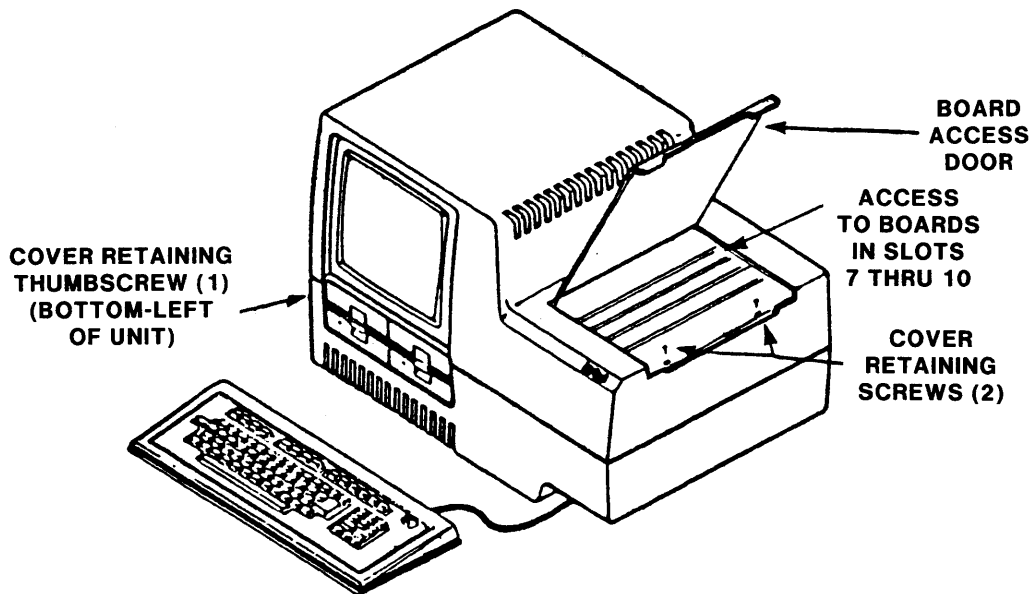

Figure 4-3. Series IV, Mainframe Board Access Door Opened
It is not always necessary to remove the top cover from the system to install boards. Card cage slots 7 thru 10 are accessible through the board access door (see Figure 4-3). To install boards into card cage slots 1 thru 6 the top cover must be removed.
2. Loosen the cover retaining thumbscrew until it is completely free from the top cover (see Figure 4-3). The thumbscrew remains captive in the base.
3. Lift the board access door and loosen the two cover retaining screws until the screws are completely free from the base (see Figure 4-3). The cover retaining screws remain captive in the cover.
the board access door (see Figure 4-3) and are usually reserved for boards that may be changed occasionally or that require easy access. Typical options that may be installed in slots 7 thru 10 are ICE and mass storage (disk) controllers (slot 8 has the second highest priority).
2. Lifting the board access door (see Figure 4-3) to gain access to card cage slots 7 thru 10, or remove the top cover (refer to Paragraph 4.6) as required.